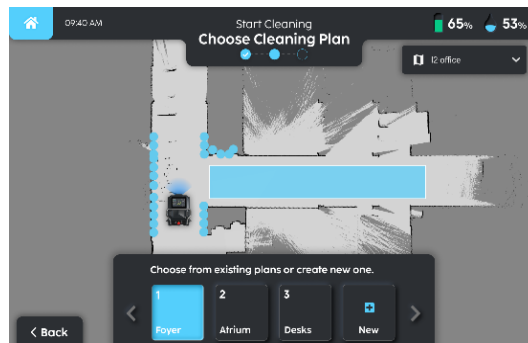

FIGURE 8-12
1. With a properly localized robot the LIDAR scan lines (indicated by red points and segments on the map) would closely match map features (displayed as black lines) (as seen in Fig. 8-12). If the R3's scan displayed on the app does not match the map features satisfactorily, the robot can be repositioned slightly to repeat the localization setting.